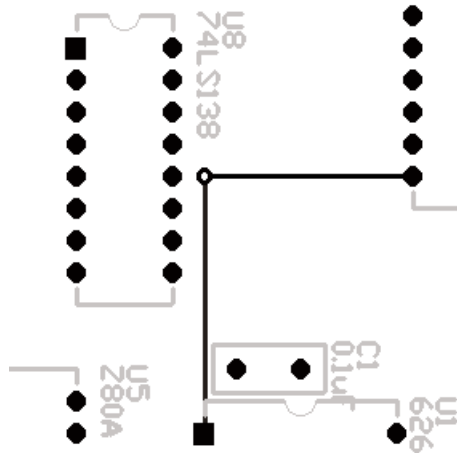

Figure 4.11. Autorouting, either with or without nets, is subject to the settings specified under the Router tab of the Setup dialog box.
- 3 Drag a track to another pad. When the destination pad changes color, release the mouse button. The pads are automatically routed, as in Figure 4.11.